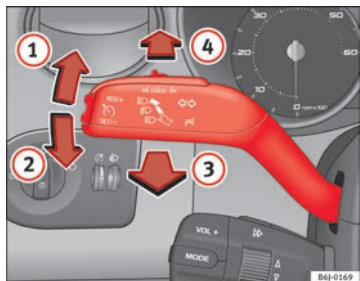

Fig. 59 Turn signal and main beam headlight lever
- Move the lever all the way up ⇒ fig. 59 ① to indicate **right**, and all the way down ② to indicate **left**.
- Push the lever up ① or down ② to the point where you incur resistance and then release it. The turn signal will flash several times. The corresponding warning lamp will also flash.
- Press the lever forward ⇒ fig. 59 ④ to switch on the main beams.
- Pull the lever towards the steering wheel ③ to operate the flasher.